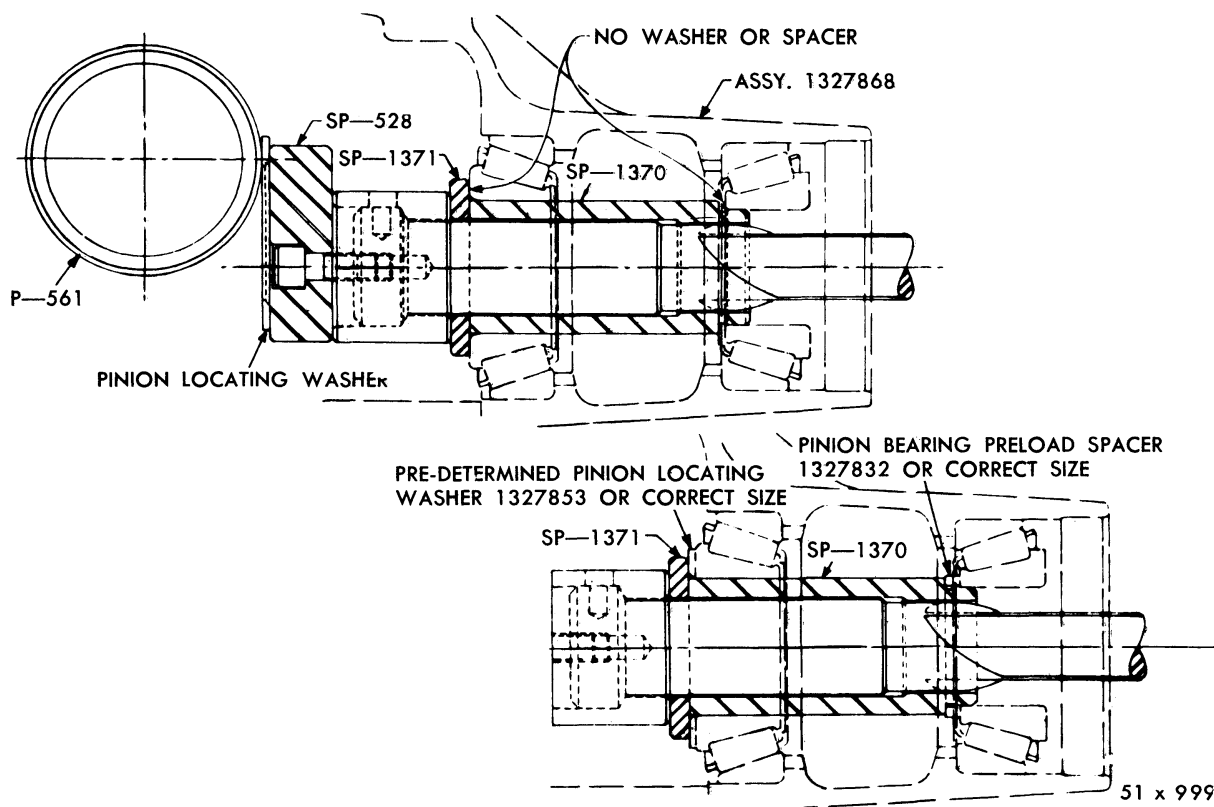

Fig. 39—Setting Pinion Bearing Pre-load with Tool C-758-D2
To check and adjust the pinion bearing pre-load, refer to Figure 39, and proceed as follows:
- (2) Slide the pinion rear bearing over spacer SP-1370 and up against spacer SP-1371.
- (3) Insert the tool, as assembled, into the carrier housing. Slide front bearing over the tool shaft and into its proper position in the bearing cup.
- (4) Tighten the tool compression nut so that the torque required to rotate the tool assembly on the bearings is 25 to 35 inch-pounds, with the bearings lubricated with hypoid gear oil.
- (5) Assemble the gauge block SP-528 to the main screw. Place SP-561 bearing arbor in the differential carrier bearing supports, as shown in Figure 39.